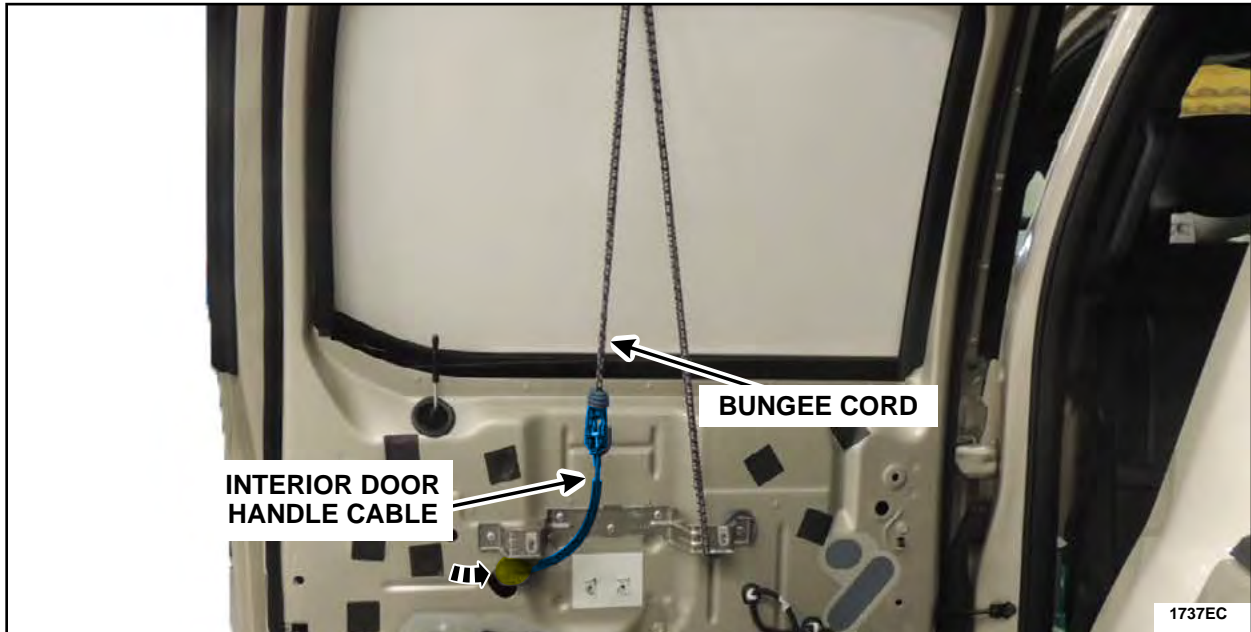

FIGURE 87
16. Using a bungee cord or other similar device, secure the interior door handle cable to the door in an upward position to allow the lubricant time to run down into the cable, until the interior door handle cable is reinstalled later in this procedure. See Figure 87.